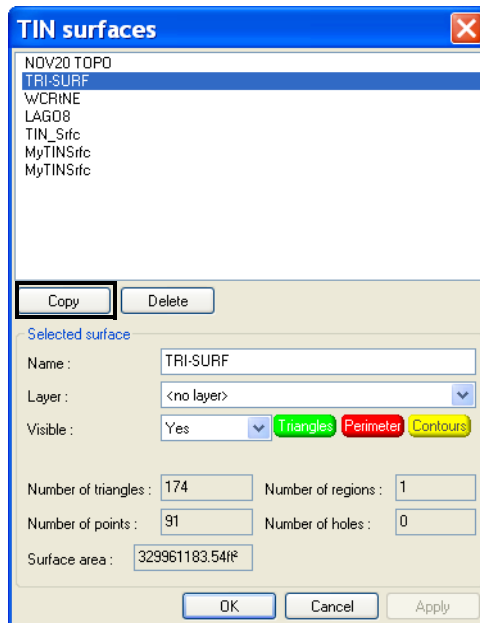

Figure 5-10. TIN Surfaces
To view 3D Project's TIN surfaces, click **TIN ► TIN surfaces**. The **TIN surfaces** dialog box displays the following information about the selected TIN surface (Figure 5-10 on page 5-11):
1. On the *TIN surfaces* dialog box (in a 3D project file, click **TIN ► Tin surfaces**), select the TIN surface to edit (Figure 5-10).